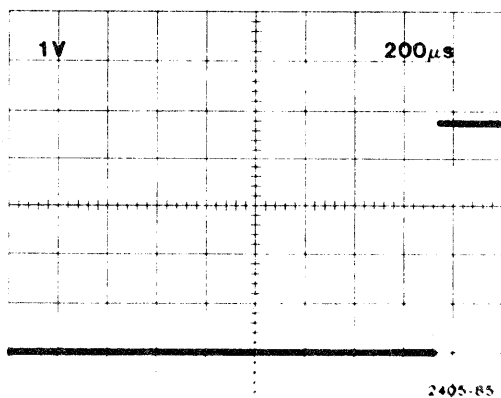

FIGURE 2 INDEX PULSE ADJUSTMENT
- c. The index pulse will be displayed on the scope, it should have a pulse width of $1.7 \text{ ms} \pm .5 \text{ ms}$. (Figure 2)